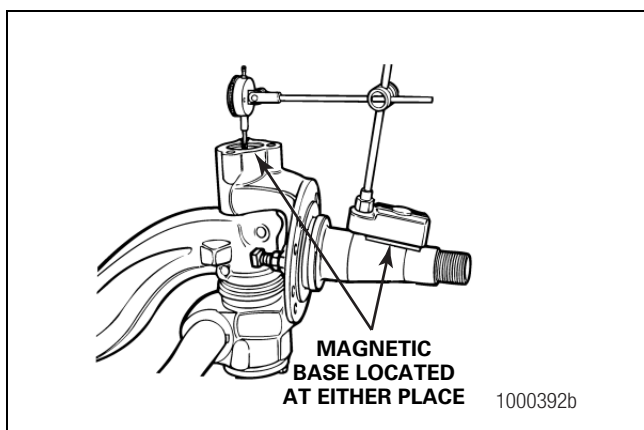

Figure 6.24
3. Attach a dial indicator. Place the base onto the knuckle. Place the tip onto the center of the king pin. Set the dial indicator to ZERO. Figure 6.24.